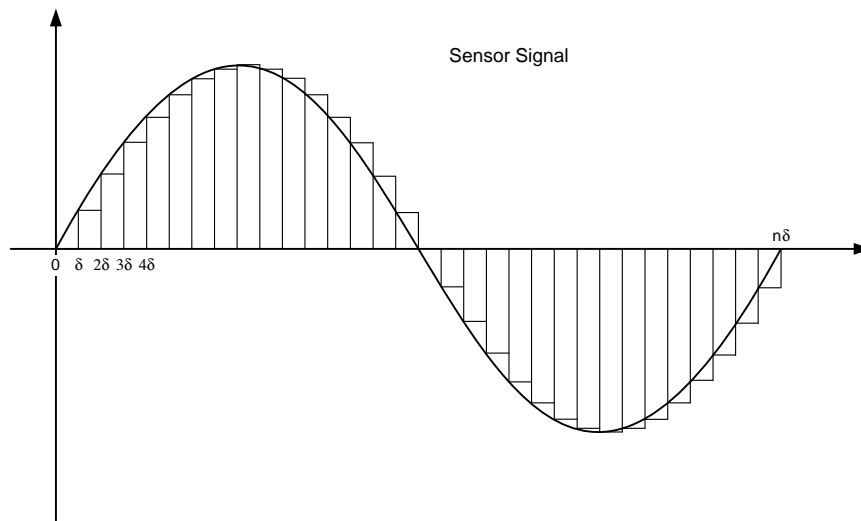

Fig. 6-4 Generation of a Variable Sine Frequency (see Text)
1. You use a **variable sampling period** ΔT_{sample} , with which the data samples of the sine wave with a **constant increment** δ are filled with clock discrete values (see Fig. 6-4).
2. You use a **constant sampling period** ΔT_{Sample} and a **variable increment** δ in the sine table (see Fig. 6-4)..